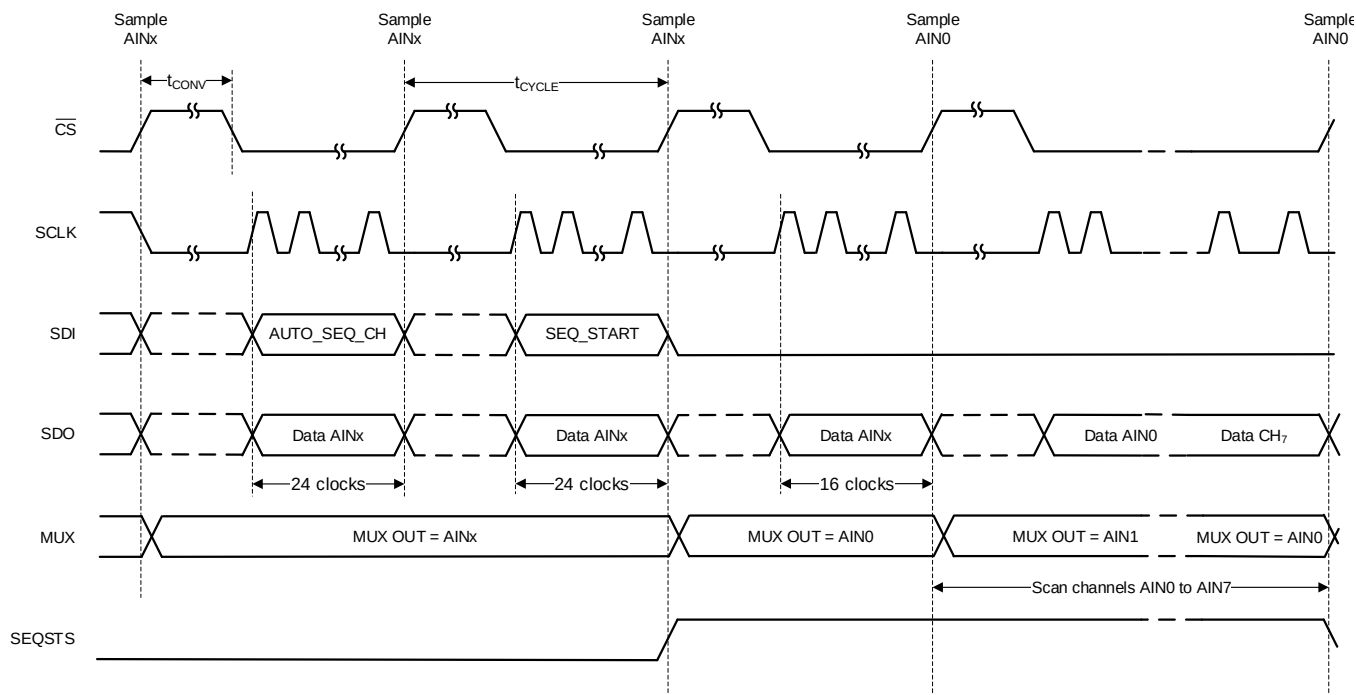
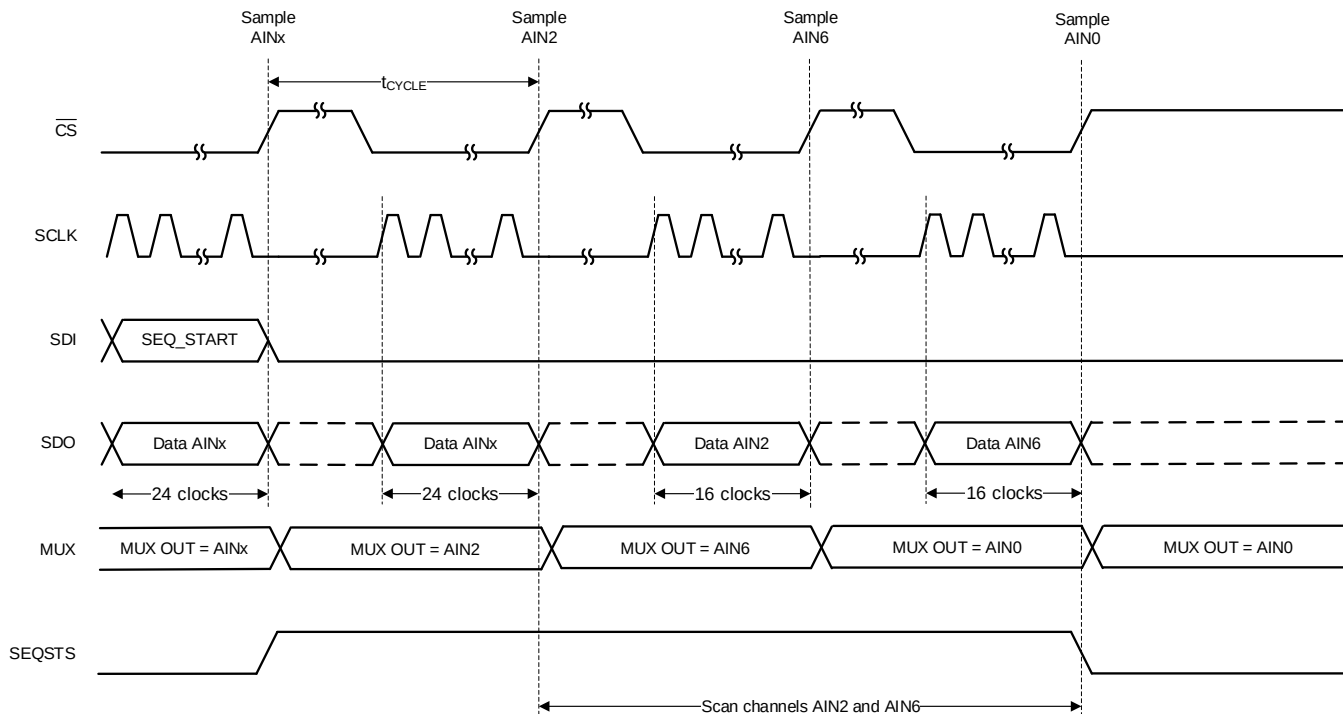

图 46. Starting a Sequence in Auto Sequence Mode
图 47. Example: Scanning Channels 2 and 6 in Auto Sequence Mode
In auto sequence mode, the internal channel sequencer can selectively scan channels from AIN0 through AIN7 in ascending order. To select auto sequence mode, configure SEQ_MODE to 10b in the DEVICE_CFG register using a 3-byte register access. One or more channels among AIN[7:0] can be enabled by configuring the AUTO_SEQ_CFG1 register. By default all analog input channels are enabled. After enabling the desired channels, the sequence can be started by setting SEQ_START to 1b. The ADC auto-increments through the enabled channels after every $\overline{CS}$ rising edge. When SEQ_START is set to 1b, the SDO-1/SEQSTS pin is at logic 1 as shown in 图 46 until the last channel conversion frame is complete. After the last enabled channel conversion is complete, channel AIN0 is selected and SDO-1/SEQSTS is in a high-impedance state.
As an example, 图 47 depicts a timing diagram for when the device is scanning AIN2 and AIN6 in auto sequence mode. When AIN6 is converted, SDO-1/SEQSTS is Hi-Z and AIN0 is selected as the active channel. At the end of sequence, if more conversion frames are launched the device returns valid data corresponding to AIN0.
- Configure the AUTO_SEQ_CFG1 register. In 图 47, AUTO_SEQ_CFG1 = 0x84.
After configuring the channel scanning order, start index, and stop index the scanning can be initiated by setting the SEQ_START bit to 1b. The ADC scans through the enabled channels after every CS rising edge as defined by the channel scanning order. When SEQ_START is set to 1b, the SDO-1/SEQSTS pin is pulled high until the last channel conversion frame is complete, as described in 图 46. As illustrated in 图 47, channel AIN0 is selected and SEQSTS/SDO-1 goes to Hi-Z after the last enabled channel conversion is complete.
As an example, 图 47 provides a timing diagram for when the channel configuration is set as in 表 5. When AIN6 is converted, SEQSTS/SDO-1 goes to Hi-Z and AIN0 is selected as the active channel. If more conversion frames are launched at the end of the sequence, the device returns valid data corresponding to AIN0.
- Configure the CCS_START_INDEX and the CCS_END_INDEX registers. In 图 47, CCS_START_INDEX = 0 and CCS_STOP_INDEX = 1.
- Configure the CCS_SEQ_LOOP register to 1 to indefinitely loop the sequence. In 图 47, the CCS_SEQ_LOOP register = 0b.